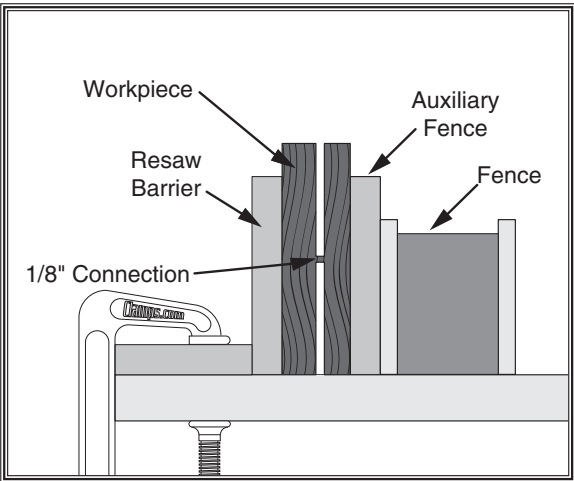

Figure 55. Completed resaw cut.
4. Place the workpiece against the fence, slide the resaw barrier against the workpiece, and clamp the resaw barrier to the table top (see **Figure 55**).